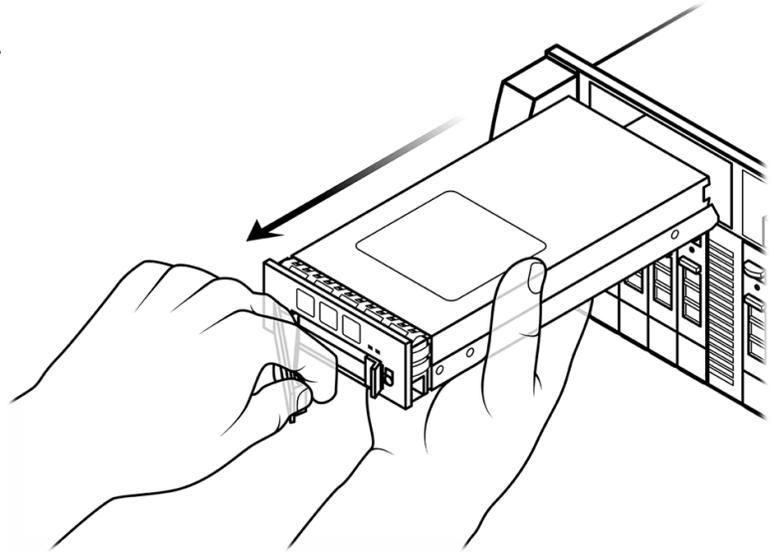

Figure 8-7. Removing the Faulty NVRAM Module
1. Pull the faulty NVRAM module by the handle while simultaneously supporting it with your other hand. See Figure 8-7.